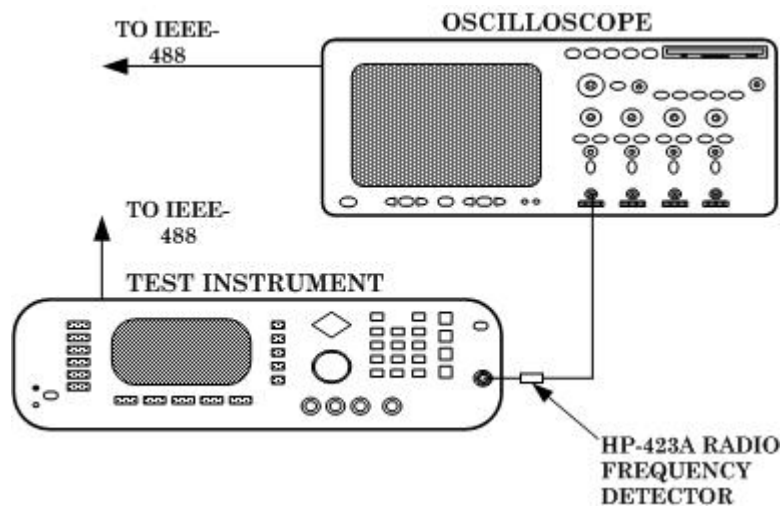

Figure 7. Pulse modulation hookup.
(1) Connect equipment as shown in figure 7 below.